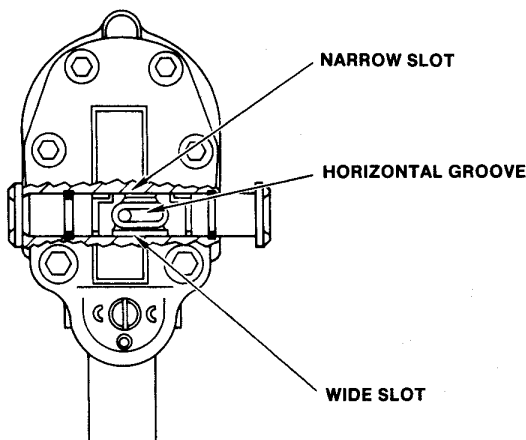

Figure 1.
1. See figure 1. The reversing spool must have the horizontal slot toward the idler shaft. Holding the spool in this position, install a greased o-ring in the **right groove**.
2. Slide the reversing spool (the end with no o-ring) into the main housing from the right side as the drill is shown in figure 1. Slide the spool only far enough in so the o-ring on the opposite end of the reversing spool can be installed.